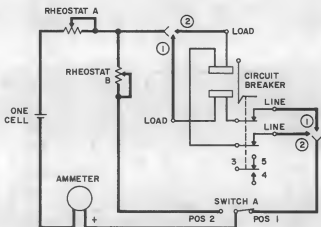

Fig. 28—Checking Circuit—DC Breakers—KS-15813
- (u) **KS-21123:** To check a KS-21123 circuit breaker, proceed in accordance with Method 1. Refer to Fig. 28. Check each pole separately as shown by options 1 and 2.